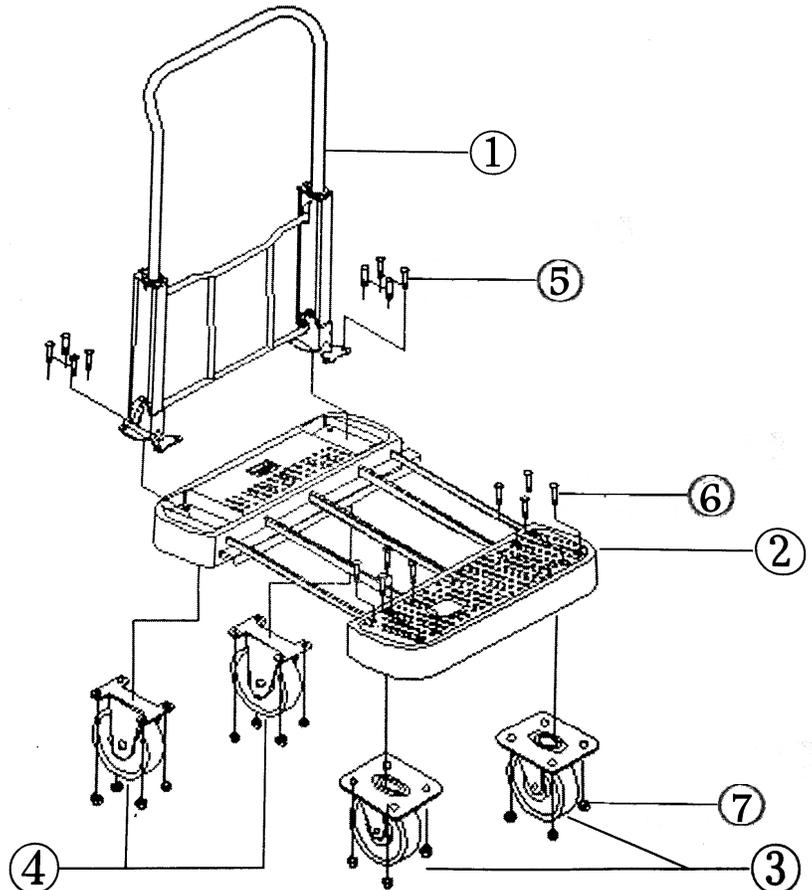

Figure 6
Note: Items Identified in Figure 6
- 3) Flip Base Assembly, then set Handle Assembly on Base Assembly as shown figure 6.